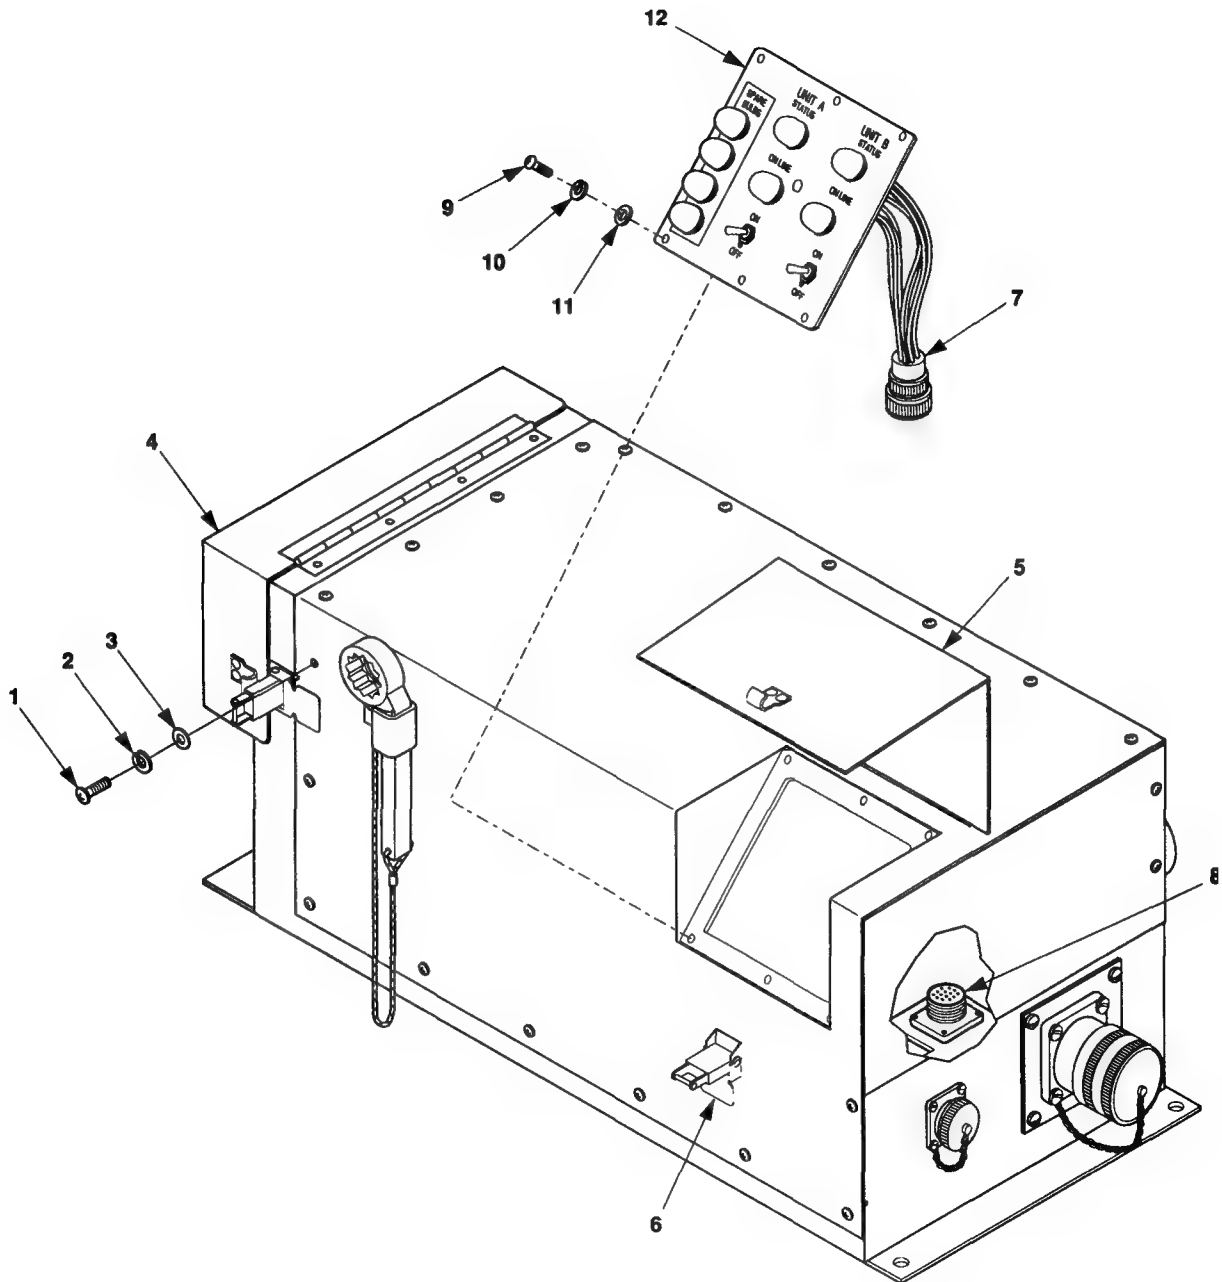

Figure 5-13. Control Panel, Wiring Harnesses, and Wiring Leads Maintenance.
1. Release clamping catch (6, figure 5-13) and open the control panel access cover (5).
2. Remove 8 screws (9), flat washers (11), and lock washers (10) that secure control panel assembly (12). Discard lock washers.
3. Disconnect P3 (7) from J 4 (8).
4. Remove the control panel assembly (12).
1. Connect P3 (7, figure 5-13) to J 4 (8).
3. Install new lock washers (10), flat washers (11), and screws (9) that secure control panel assembly (12) to switch box assembly (4).
4. Close the control panel access cover (5) and secure with clamping catch (6).
1. Remove 21 machine screws (1 figure 5-13), lock washers (2), and flat washers (3) that secure the switch box cover (4) to the switch box assembly. Discard lock washers.
- 1. Remove 21 machine screws (1, figure 5-13), flat washers (3), and lock washers (2) that secure the switch box cover (4) to the switch box assembly. Discard lock washers.
1. Remove 21 machine screws (1 figure 5-13), flat washers (3), and lock washers (2) that secure the switch box cover (4) to the switch box assembly.